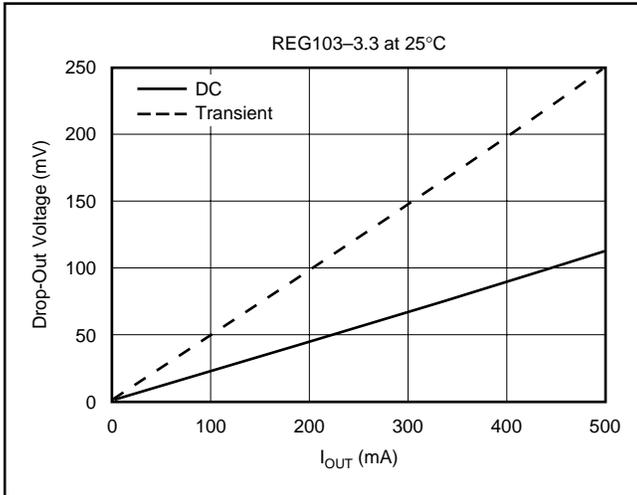

FIGURE 10. Transient and DC Dropout.
The REG103 uses an N-channel DMOS as the “pass” element. When the input voltage is within a few hundred millivolts of the output voltage, the DMOS device behaves like a resistor. Therefore, for low values of V_{IN} to V_{OUT} , the regulator’s input-to-output resistance is the R_{dsON} of the DMOS pass element (typically 230mΩ). For static (DC) loads, the REG103 will typically maintain regulation down to V_{IN} to V_{OUT} voltage drop of 115mV at full-rated output current. In Figure 10, the bottom line (DC dropout) shows the minimum V_{IN} to V_{OUT} voltage drop required to prevent drop-out under DC load conditions.
For large step changes in load current, the REG103 requires a larger voltage drop across it to avoid degraded transient response. The boundary of this “transient drop-out” region is shown as the top line in Figure 10. Values of V_{IN} to V_{OUT} voltage drop above this line insure normal transient response.